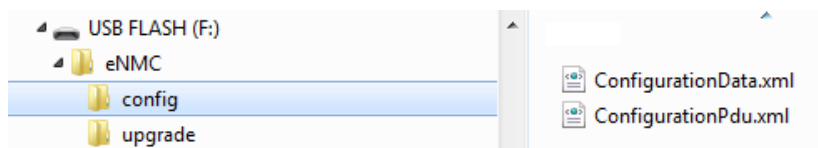

Figure 66. Verify Files at USB Root
1. Verify that the USB drive contains the ConfigurationPdu.xml file and ConfigurationData.xml files in eNMC/config directory of USB drive (see Figure 66).